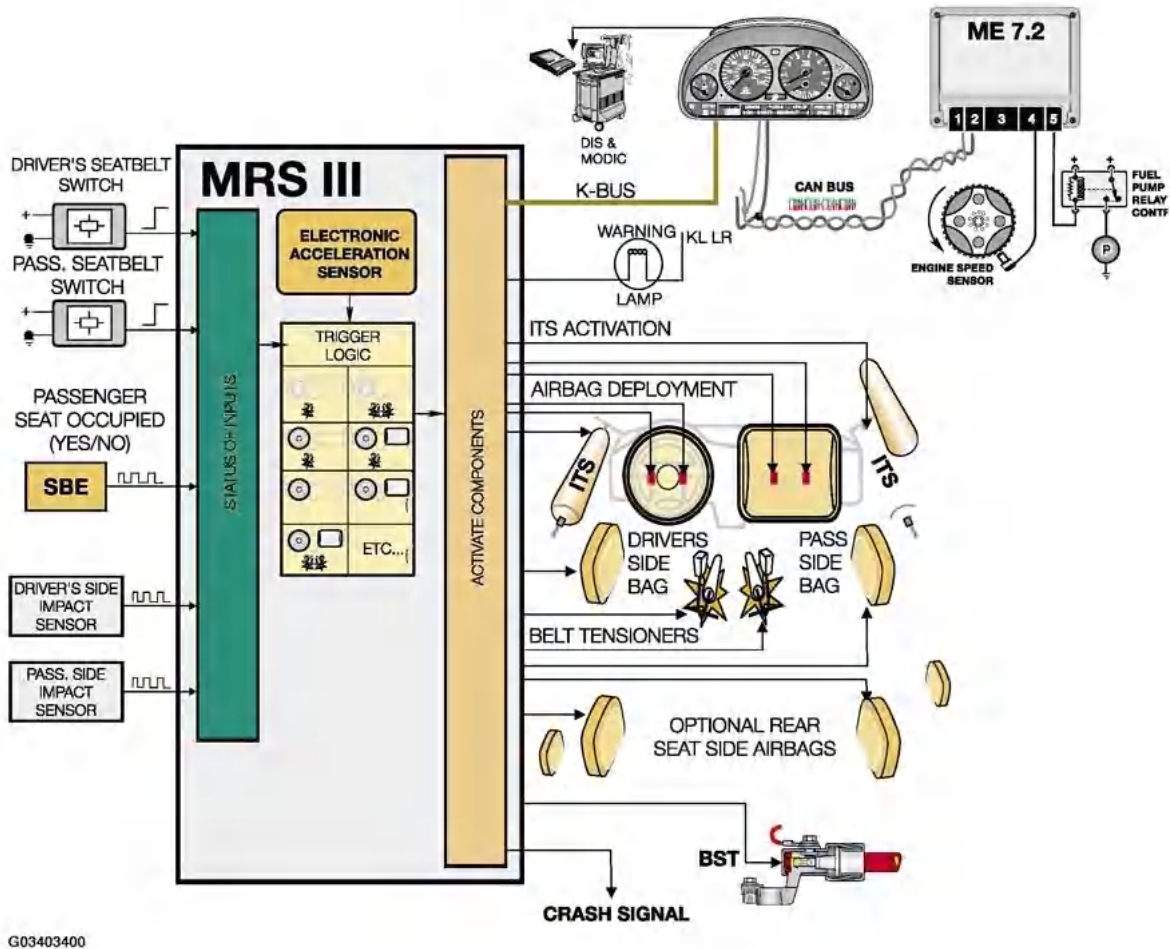

Fig. 1: Identifying MRS III I.P.O.
2. Ensure front wheels are in straight-ahead position. Remove steering wheel bolt. Mark steering wheel hub in relation to steering shaft for installation reference. Loosening steering wheel bolt activates spring clip lock holding contact ring in center position. See Fig. 1 . Remove steering wheel.